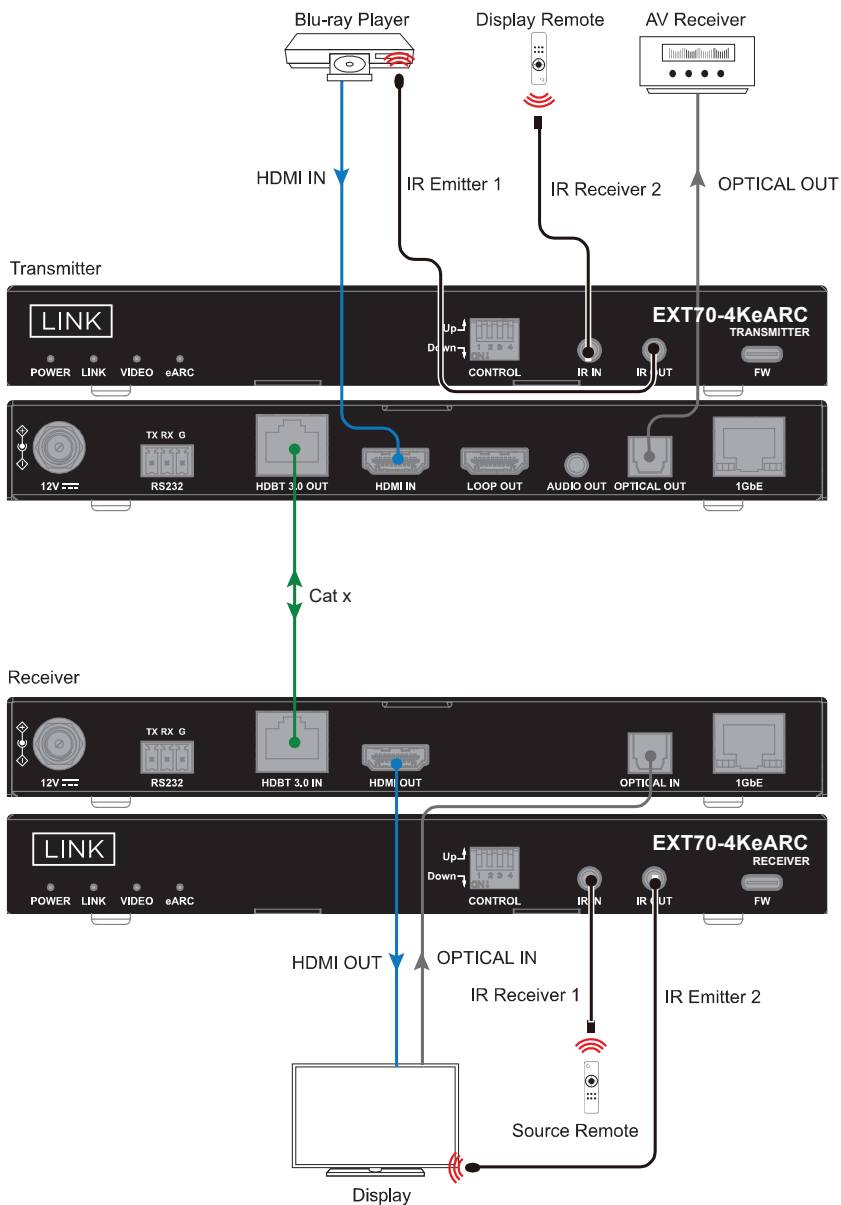

Figure 2. OPTICAL Audio Return
6. Power on all attached devices. Audio signal from OPTICAL IN port will be transmitted to OPTICAL OUT port (See Figure 2).
- IR Pass-through: Connect the IR emitter cable provided to IR OUT port of the transmitter/receiver. Connect the IR receiver cable provided to IR IN port of the receiver/transmitter. Users can control the source at the receiver side using source remote or control the display at the transmitter side using display remote ((See Figure 2).